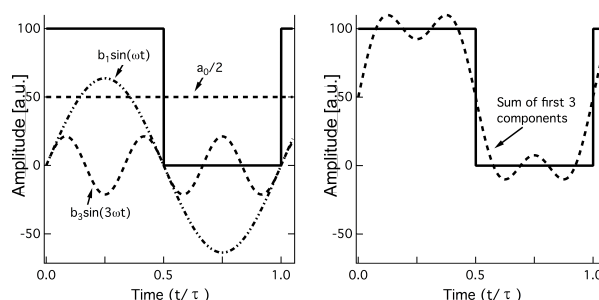

Figure 1: Fourier analysis of a periodic square function
- Calculate expressions for the coefficients  $a_0, a_1, a_2, a_3, b_1, b_2, b_3$  from Eqs. (2) and (3).
- Use the coefficients to plot the Fourier analysis of the square function using Eq. (1) and plot on top of your square function (See Fig. 1). The  $n=1$  component is known as the **fundamental frequency**, why?